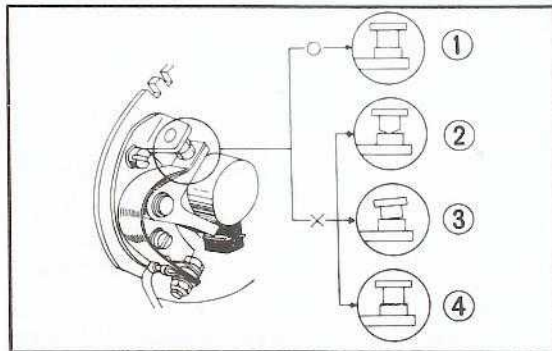

Fig. 7-17 ① Correct
- a. Dress the pitted or dirty point with either a point file or emery paper, however, if the condition is relatively severe, remove the contact breaker arm and dress the points on both the arm and the stationary point with an oil stone, making sure that the points will have parallel contact when assembled. The point gap should be adjusted to  $0.012\sim0.016$  in ( $0.3\sim0.4$  mm). (Fig. 7-17)